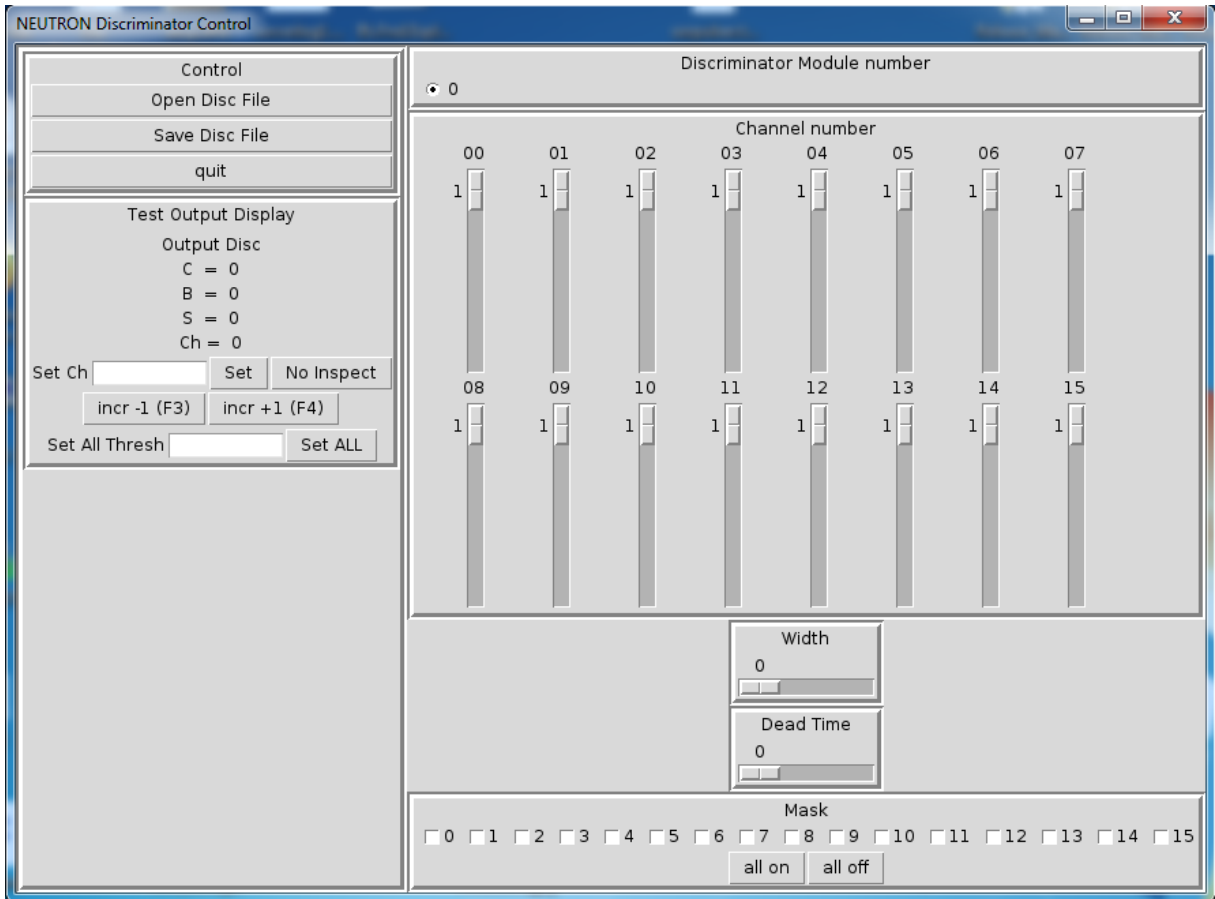

Figure 2: NW Discriminator GUI
2. Type wish lecroy_cfd.tcl and a GUI should appear (see Fig. 2).